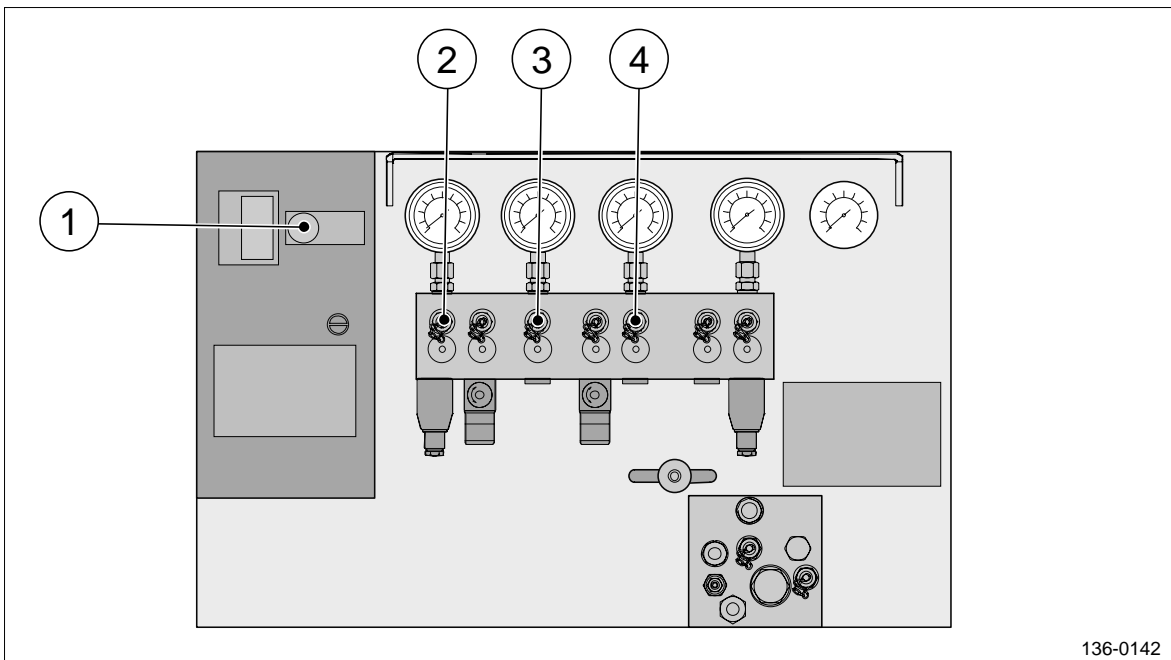

Figure 3 Control panel on the hydraulic power pack.
6. Connect a hose with test connection to test nipple TP3 (pos 5, figure 3). Note that when the hose is attached to the test nipple, oil will flow out and release the pressure. Take proper measures to collect the oil.
7. Disconnect the hose and repeat this procedure on the test nipples TP5 and TP4 (see figure 3). Dispose the collected oil according to local regulations.